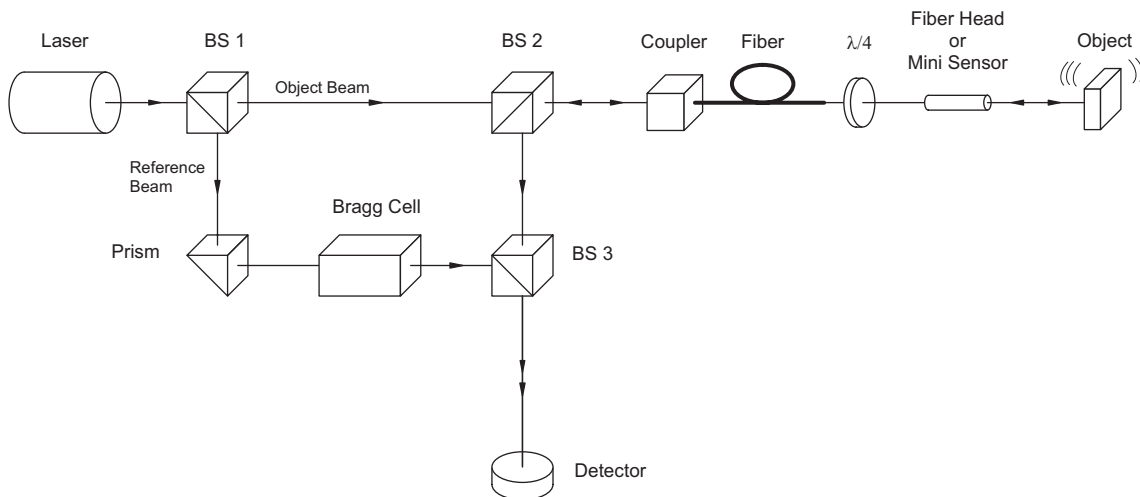

Figure B.1: Optical configuration of the interferometer in the sensor head OFV-511
**OFV-511** The optical configuration in the sensor head OFV-511 is shown schematically in figure B.1.